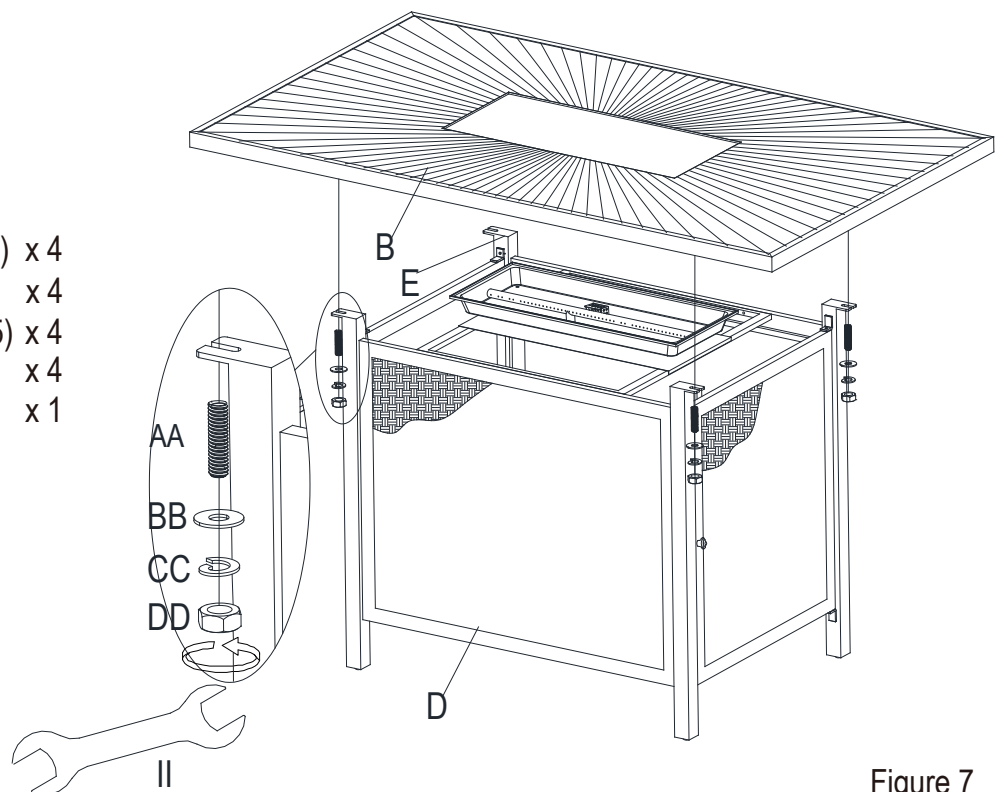

Figure 7
9. Fix the Table Top (B) onto the Base Assembly with Bolt (AA), Flat Washer (BB), Lock Washer (CC) and Nut (DD), screw the Nut (DD) tightly by using the Wrench (II). See figure 7.